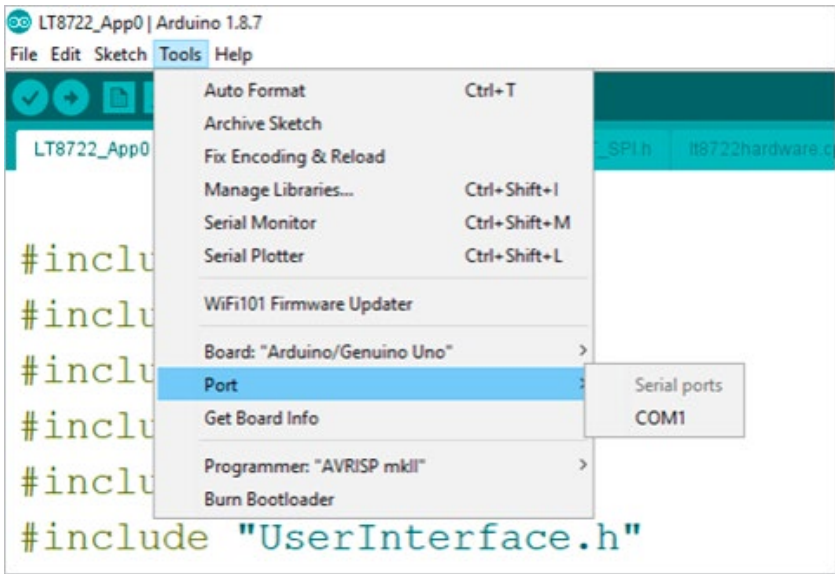

Figure 3. Port Setting
9. Next, ensure the Arduino/Linduino software is properly connected to the port for the DC2026C. See Figure 3. The correct port is typically the one with the smallest number however you may need to experiment until you find it.